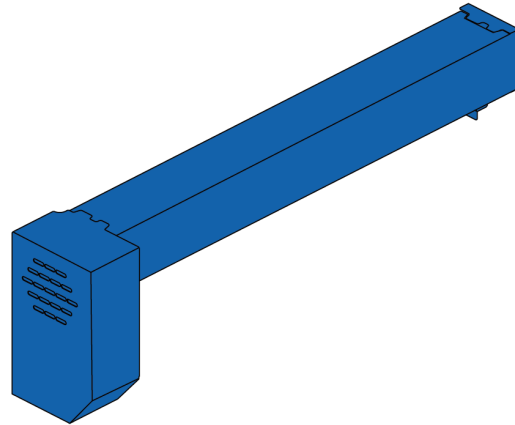

Fig. 21: Complete cover (316)
- Complete cover (316) – door system only possible with complete cover (Fig. 21)